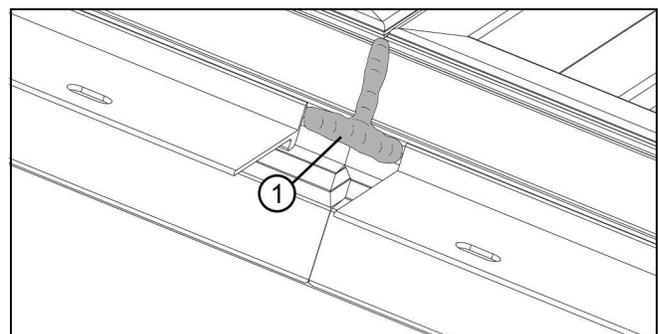

**Figure 26 Outswing Door**
4. Center mulling tin over mullion and secure with 1/2" x 1/2" 16 gauge staples as shown in Figure 25 (Inswing) and Figure 26 (Outswing).